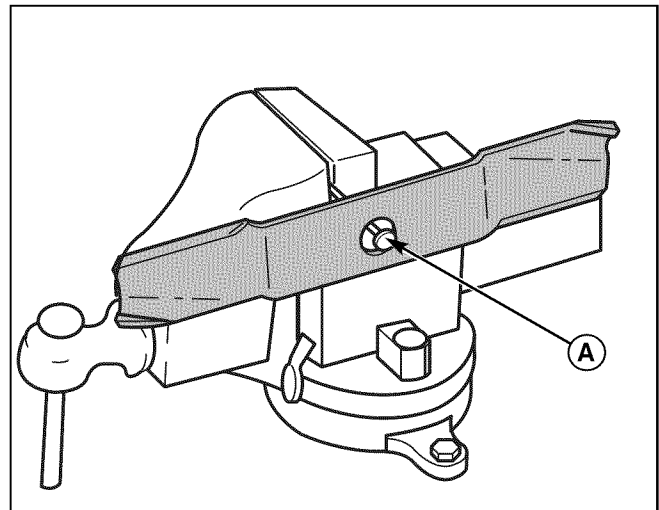

Figure 24. Balancing the Mower Blade
2. See Figure 24. Put the mower blade on a nail in a vise and turn the mower blade to the horizontal position.